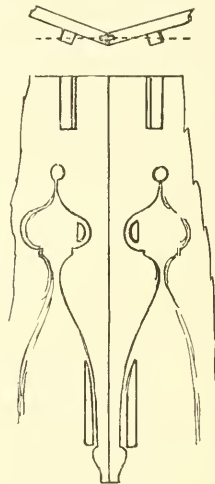

FIG. 230
3. Glue on blocks, when necessary, for the hand screws, as shown (Fig. 230), rubbing on the blocks with hot glue. Let dry 2 or 3 hours.